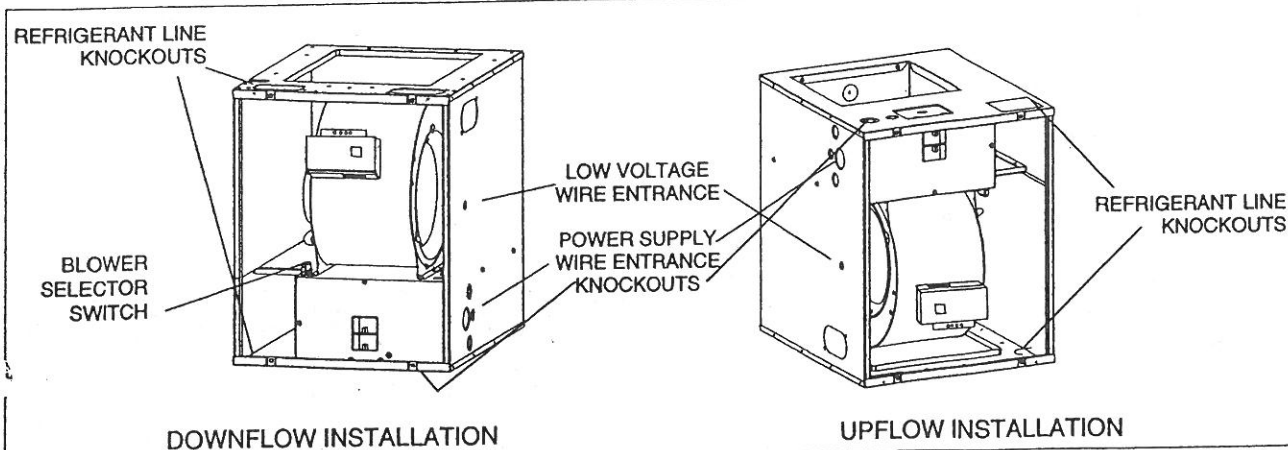

Figure 16. Downflow and Upflow Installations
7. Set the furnace blower selector switch (see Figure 16) in the "AUTO" position.